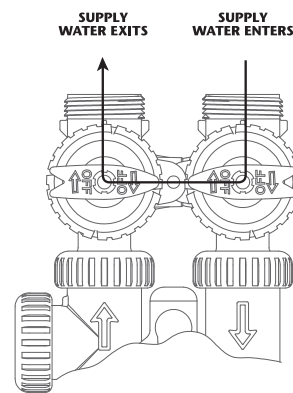

Figure 2
2. **BYPASS POSITION:** The inlet and outlet handles point to the center of the bypass. The system is isolated from the water pressure in the plumbing system. Untreated water is supplied to the building (**Fig. 2**).
1. Rotate bypass handles to the bypass mode (see Fig. 2 of page 4).